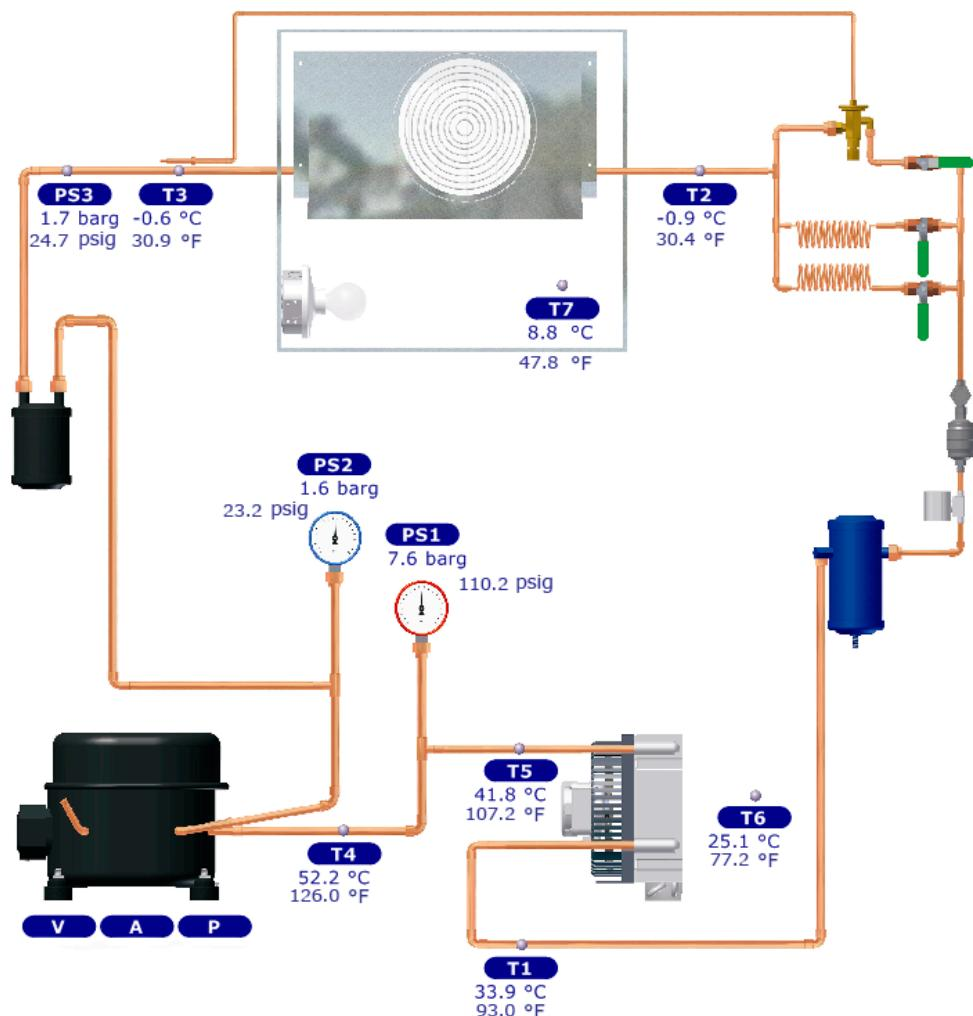

Figure 31. Example of the temperatures and pressures read at the various test points of the system.
- Figure 31 shows an example of the temperatures and pressures that can be read at the various test points of the Refrigeration Diagram, under the current operating conditions. Using the temperatures and pressures in this figure, fill in Table 16—once complete, this table contains all the data required to plot the refrigeration cycle of the system.
Pressure, temperature, and enthalpy data required to plot the refrigeration cycle. Refer to Figure 31.